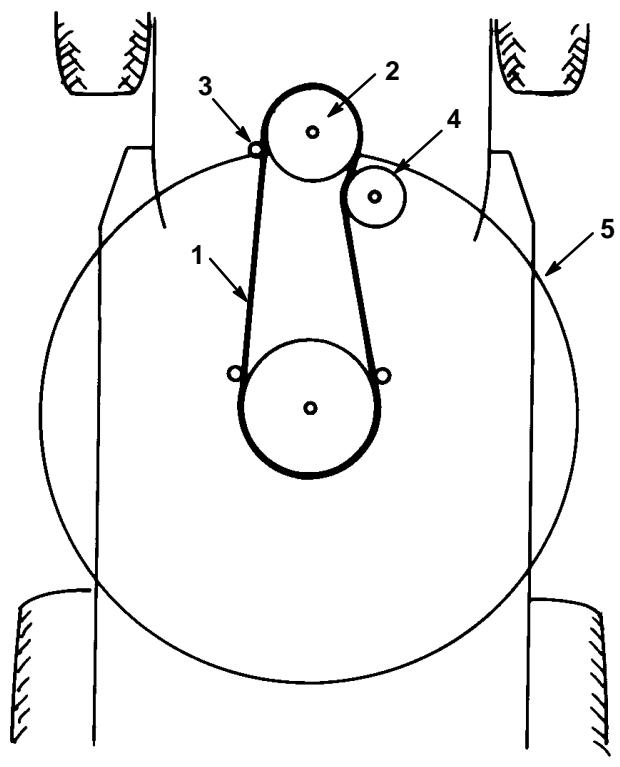

Figure 36
10. Remove the mower belt from the lower engine pulley (Fig. 36). If you are careful, you can flex the belt guide(s) just far enough away from the pulley to remove the belt. If it is too difficult to remove the belt, loosen the bolts and nuts securing the belt guides.
4. Install mower belt onto the lower engine pulley (Fig. 36). If you are careful, you can flex the belt guide(s) just far enough away from the pulley to install the belt. If it is too difficult to install the belt, loosen the bolts and nuts securing the belt guides.